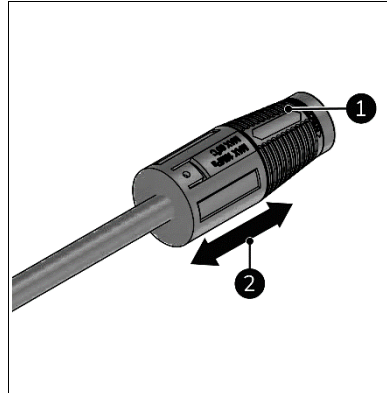

Figure 18
4. To change the pressure of the adjustable nozzle (Figure 18, pos. 1):
- Slide forward for a high pressure (Figure 18, pos. 2);
- Slide backward for a low pressure (Figure 18, pos. 2).